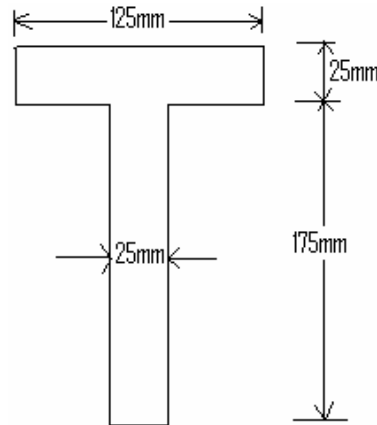

Figure.3
- 4.a) A Simply supported beam carries a uniformly distributed load of intensity 30N/mm over the entire span of 1.0 meter. The cross section of the beam is a T-section having the dimension as shown in Figure.3. Calculate the maximum shear stress for the section of beam.